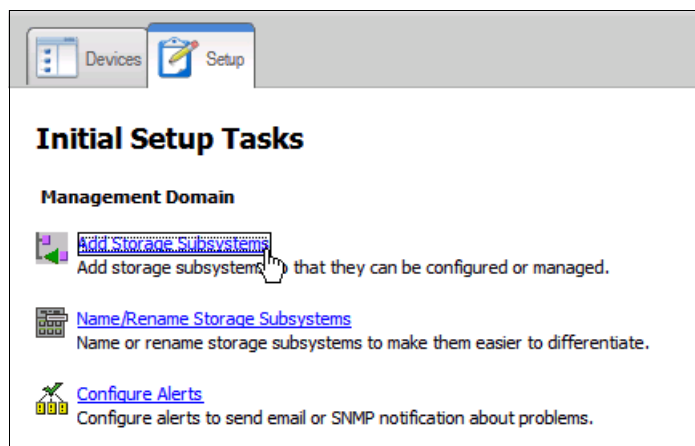

Figure 5-22 Add Storage Subsystem
1. From the Setup tab DS Storage Manager Enterprise Management window, click the **Add Storage Subsystem** link as shown in Figure 5-22